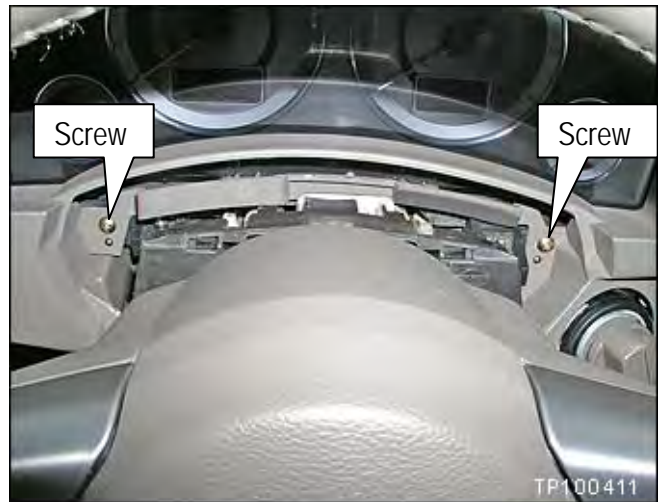

Figure 7
- a. Remove the 2 screws shown in Figure 7.